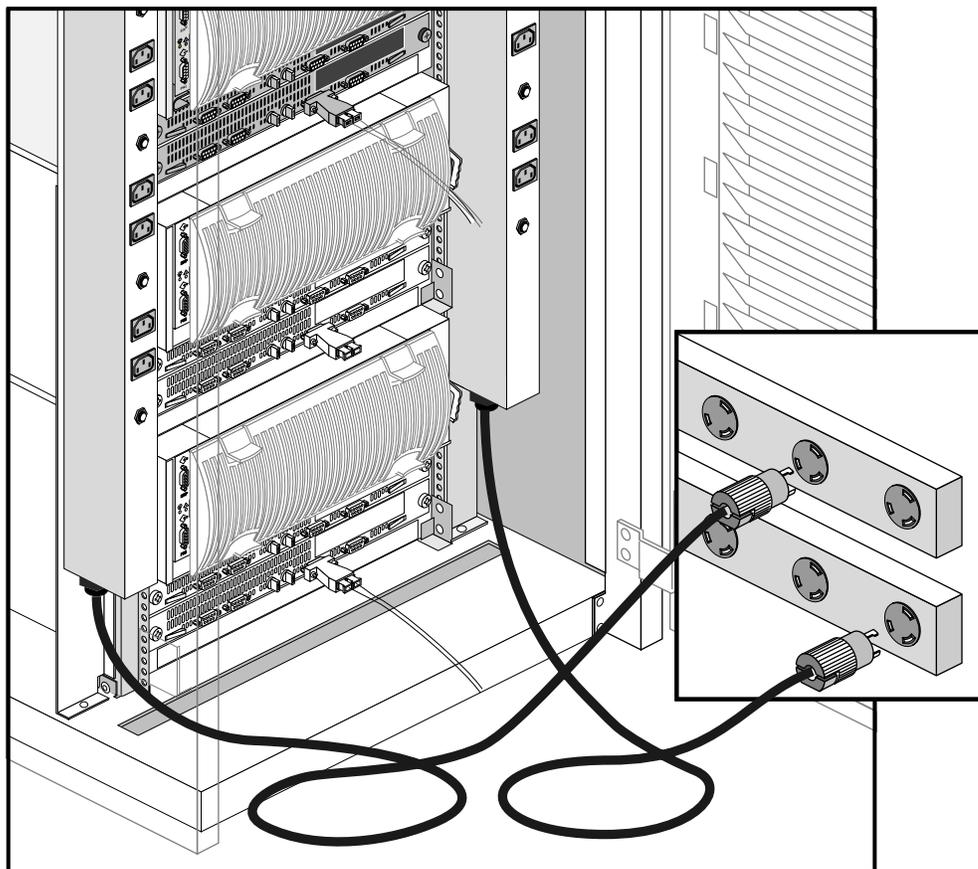

Figure 3-16 Disconnecting Rack Power Cables
3. Unplug both of the rack’s power cables (see Figure 3-16) to cut off all power to the rack.